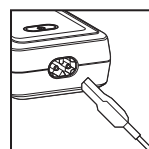

FIGURE 1
- Attach power cord plug into shaver first, then to outlet. If your battery is completely run down, allow the shaver to charge for **1 minute** (switched OFF) before using as a corded shaver. (Figure 1)